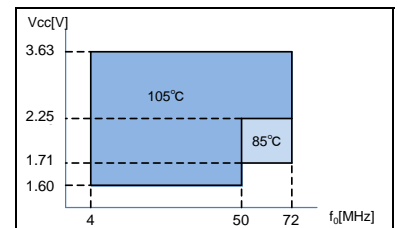

Figure 1 : The upper limit of Operating temperature and the related conditions
| Supply voltage               | $V_{CC}$   | 1.60 V to 3.63 V1.71 V to 3.63 V2.25 V to 3.63 V  | 4 MHz $\leq f_o \leq$ 50 MHz, $T_{use} = +105$ °C Max.fo = 72 MHz, $T_{use} = +85$ °C Max.fo = 72 MHz, $T_{use} = +105$ °C Max.Refer to Figure 1 |                            |  |
| ④Supply voltage *See Figure 1 |                     | ⑥Frequency tolerance / ⑥Operating temperature range |   |
| ③Supply voltage *See Figure 1 |                     | ⑤Frequency tolerance |   |